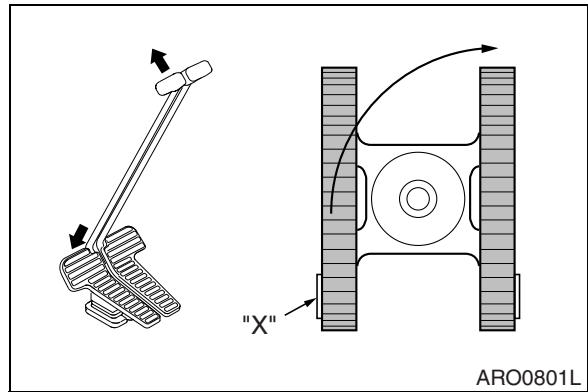

Figure 39
- Pivot turns (Figure 39) are made by rotating only one track forward or backward. The machine will pivot on the nonmoving track.